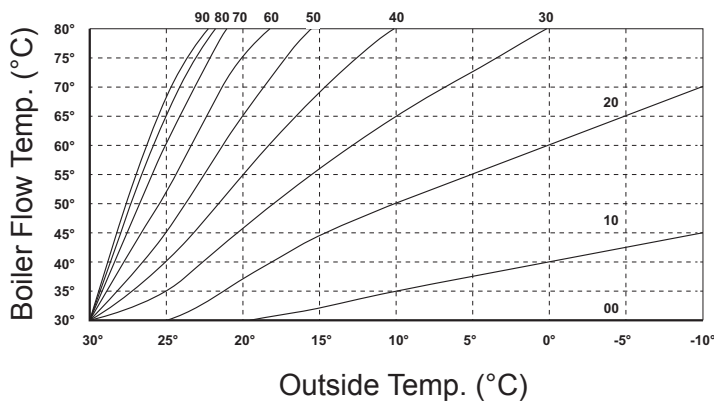

Fig. 27
10. Set the boiler as described in Section 6.0 to correspond with the desired curve as shown on the graph (Fig. 27).
For example, if Curve **'40'** is selected (Fig. 27), at an outside temperature of 10°C the boiler flow temperature will be 80°C. Consider the type of dwelling and discuss with the user their requirements to determine the most appropriate curve.